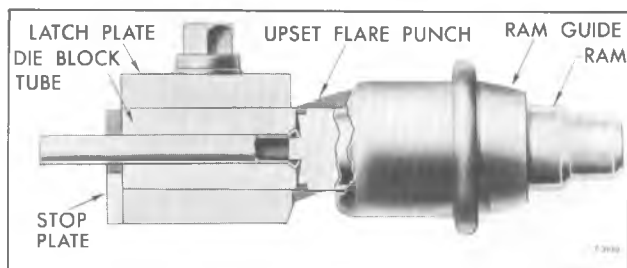

Figure 5—Flaring Operation (First Flare)
6. Remove punch and ram. Reverse punch and place back in tool body. Install ram and tap lightly until face of punch contacts face of die blocks to complete first flare operation (fig. 5).